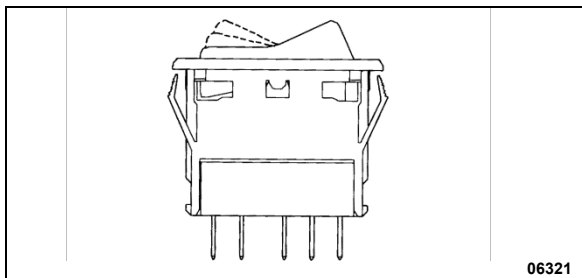

FIGURE 107: SWITCH
3. To install a new switch, reverse the procedure (Figure 107)